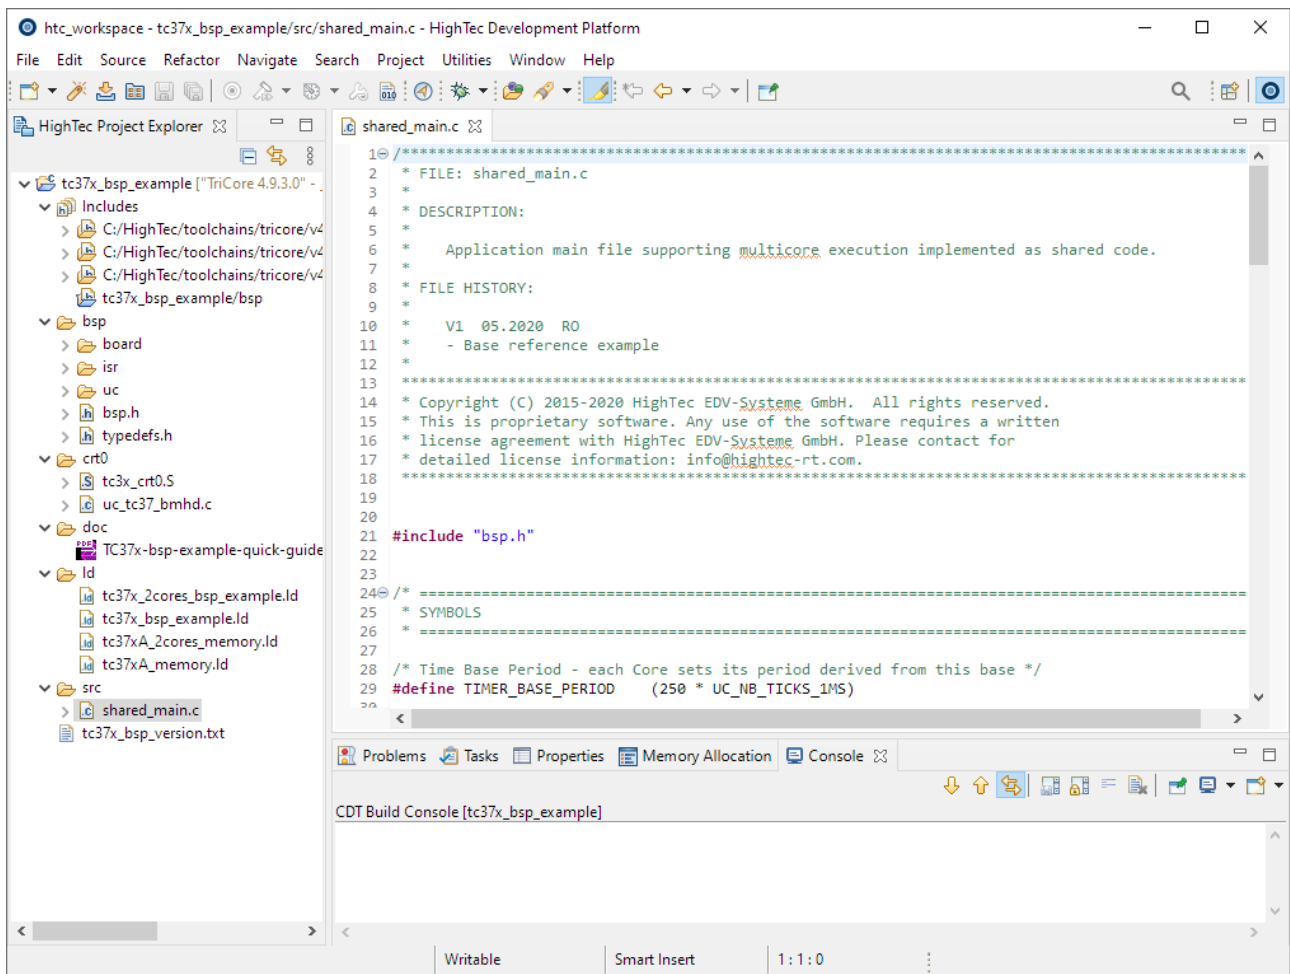

Figure 13 HighTec C/C++ Perspective with the new imported example
5. The selected example will be imported and a new project created. Figure 13 shows HighTec perspective with the new created project. To see the generated project files you may need to expand the hello project structure on the left pane. To open one generated file double-click the file in the **src** folder of the project structure.